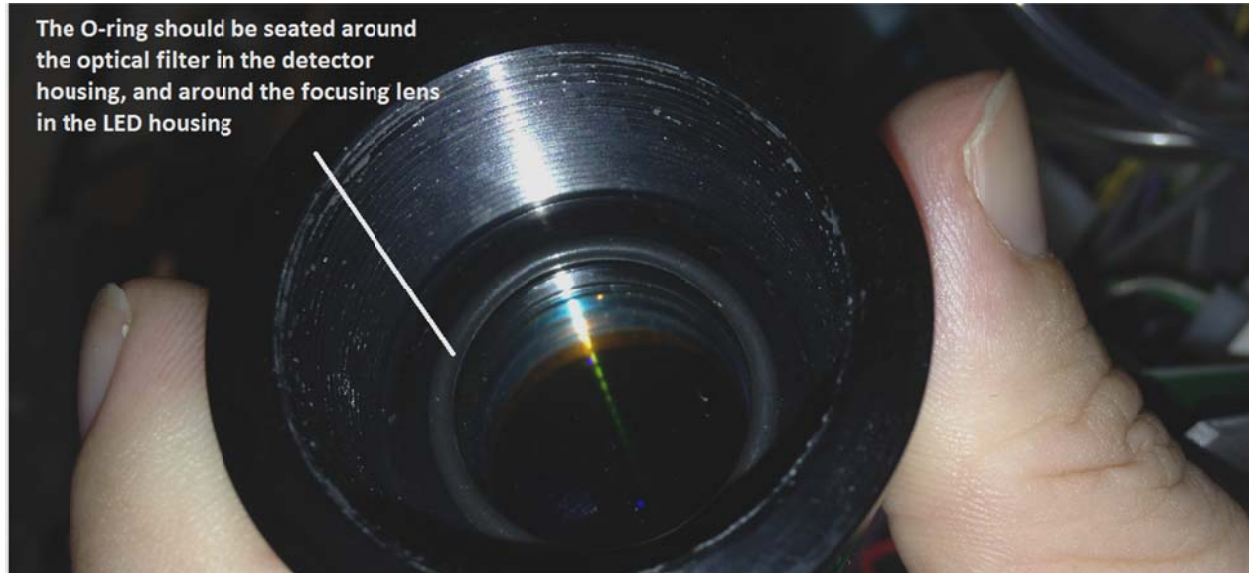

Figure 8
9. Check the O-ring in the two black end cap housings to make sure the O-rings are fully seated as shown in Figure 8.